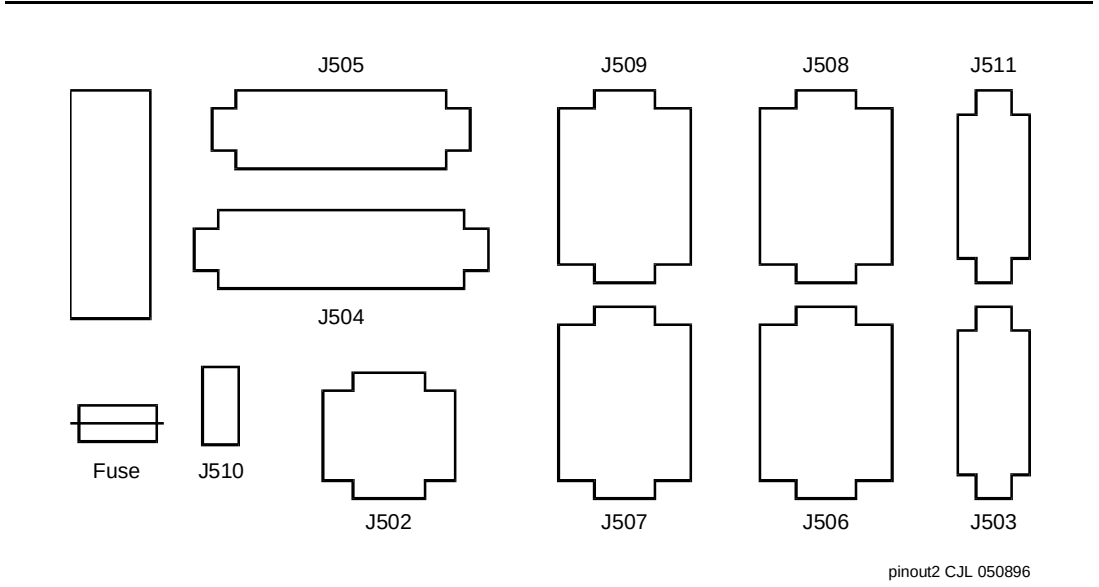

Figure 7-15. Battery Backup Type Power Supply Cable Receptacles
9. Remove the mating plugs from the panel-mounted receptacles. The receptacles are located on top of the power supply (Figure 7-15).